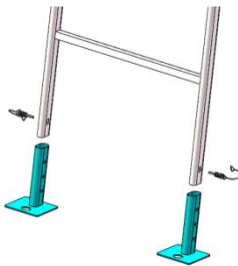

Figure 23
Step 22: Attach the two ladder feet (TS305.01) to the ladder section (TS305.02) by using two two spring lock pins (63281). (Figure 23)